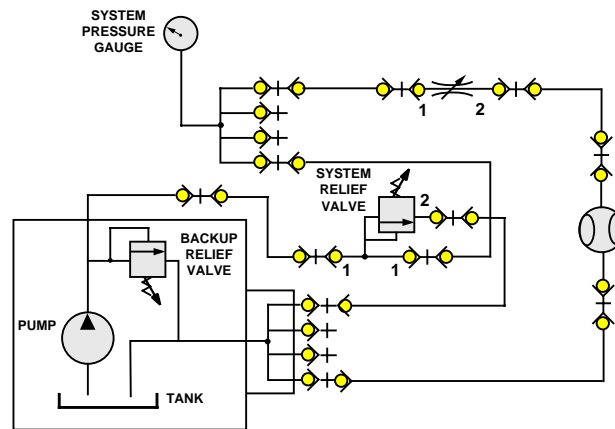

Fig. 3.6.18 Hydraulic Circuit
1. Build the circuit shown in Figure 3.6.18.